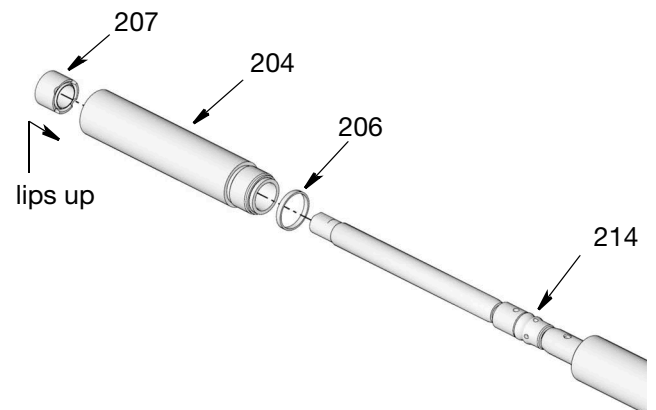

FIG. 42
- Apply a thin layer grease to seal (206) and install around pump cylinder (204) (FIG. 42).
- Apply a thin layer of grease to piston seal (214).
- Thread pump cylinder (204) to spacer cylinder (205). Use a wrench to tighten securely. Torque to 45-55 ft-lb (61-74 N•m).
- Apply a thin layer of grease to intake seal (207) and install seal with lips facing up inside pump cylinder (204) as shown in FIG. 42.